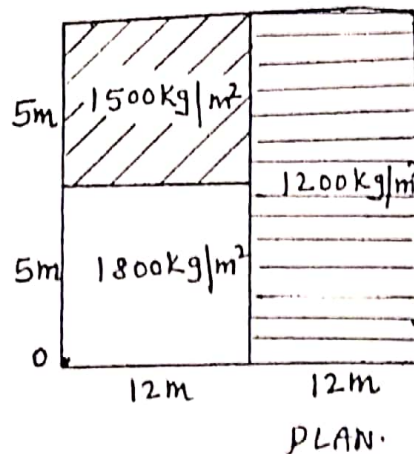

Fig. Q4(b)
b. A building having a non-uniform distribution of mass is shown in Fig. Q4(b). Locate its centre of mass. (05 Marks)
- c. For the moment resisting frames idealized as shear buildings. Investigate the building structures shown in Fig Q4(c) has soft storey or extreme soft storey, MI of each column is indicated. (05 Marks)